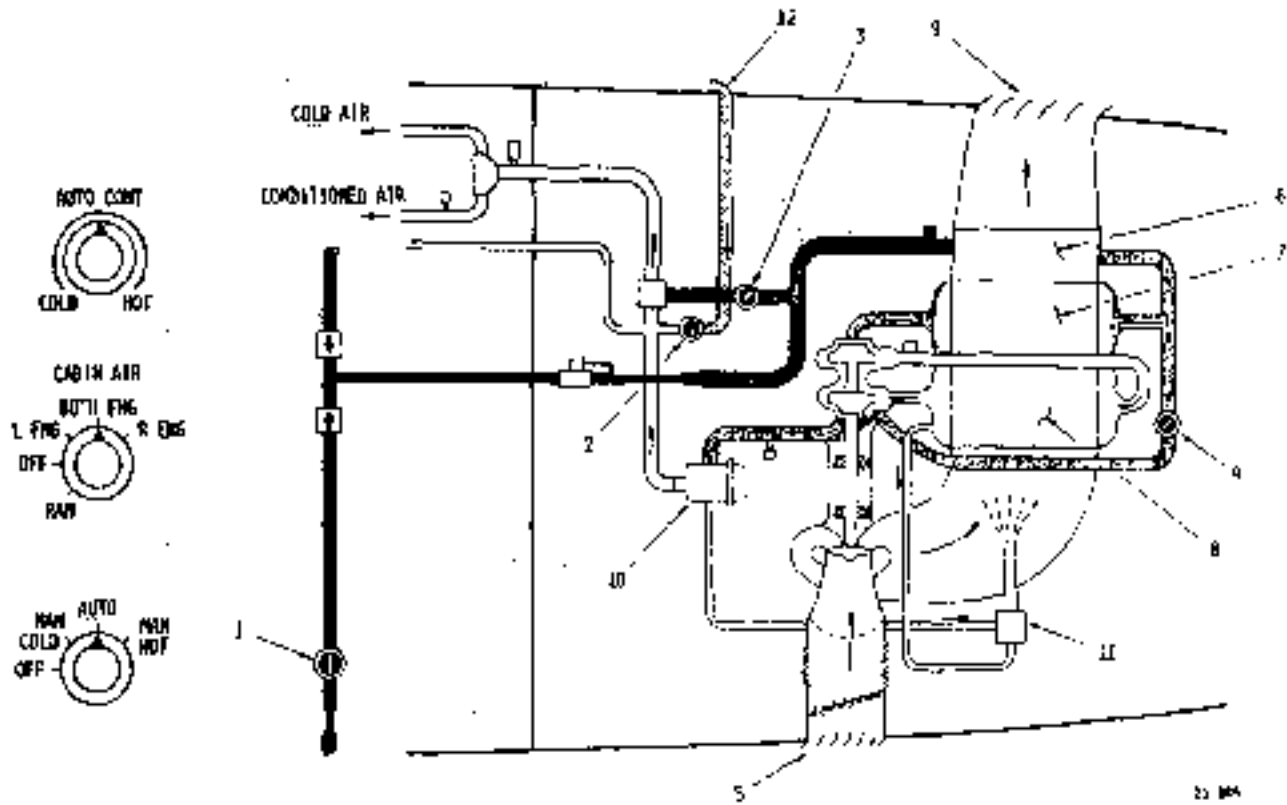

Fig. 8-17 Automatic Cabin Air Supply Temperature Control Condition
- (6) Set auto/manual selector switch in MAN COLD and make sure that cold air comes out of each outlet (see Fig. 8-17).
Key to Figures 8-17, 8-18, 8-19 and 8-20